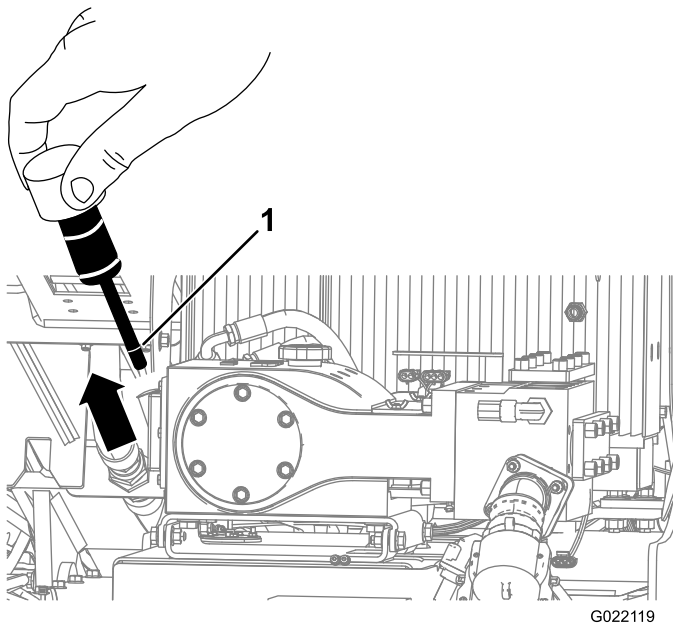
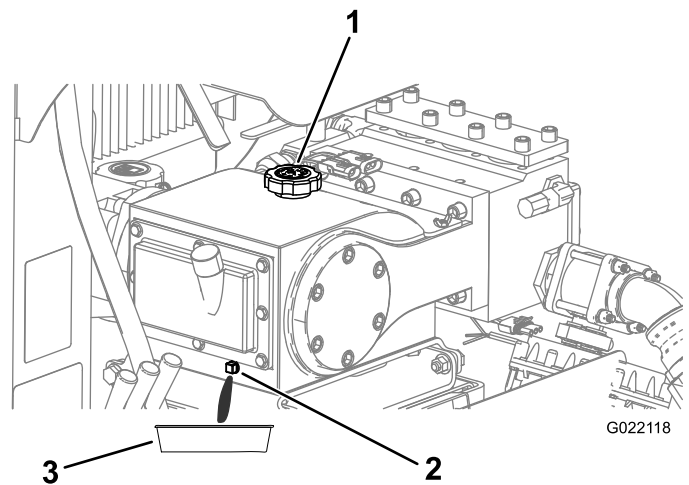

Figure 149
Figure 150
3. Remove the oil dipstick (Figure 149).
4. Ensure that the oil is at the oil-fill line as shown in Figure 149.
4. Remove the drain plug and place a drain pan under the drain-plug hole (Figure 150).
6. Allow all of the oil to drain from drain plug into the oil pan (Figure 150).
8. Remove the oil-filler cap (Figure 150) and add approximately 1.9 L (2 qt) of oil, or until the oil reaches the oil-fill line on the dipstick as shown in Figure 149.